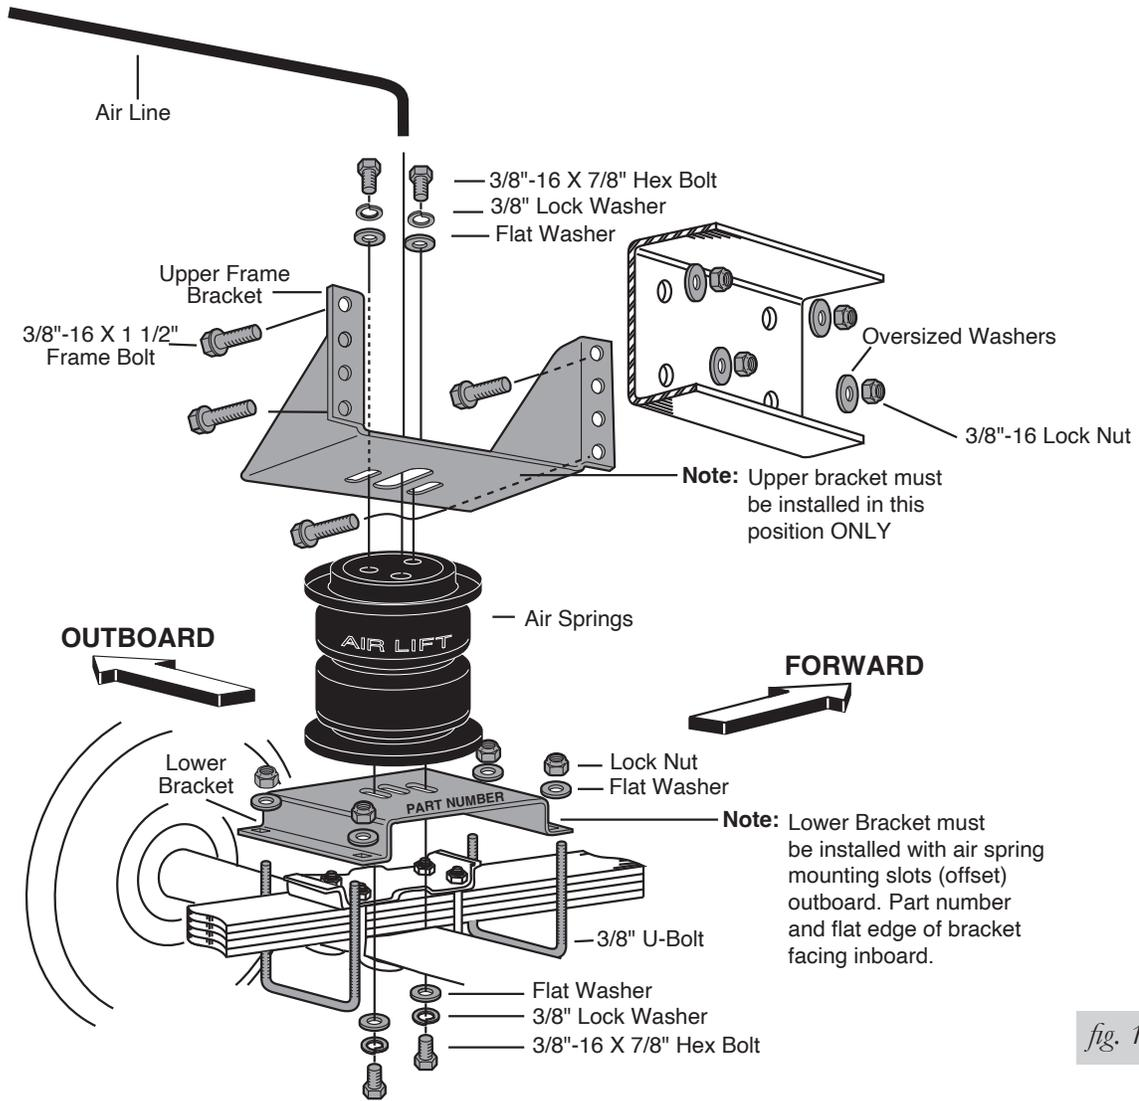

fig. 1
1. Set a roll plate on both ends of the air spring. The radiused (rounded) edge of the roll plate will be towards the air spring so that the air spring is seated in both roll plates (Figs. 1,4 & 5).
2. Attach the lower bracket to the leaf spring using provided U-bolts, flat washers and lock nuts as shown in Figure 1.